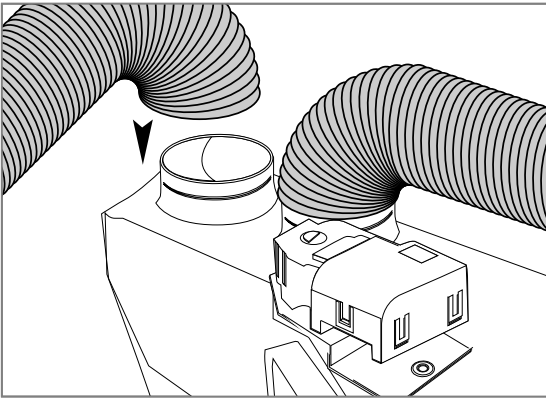
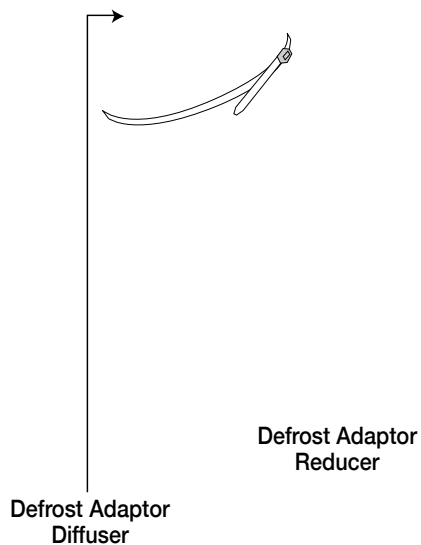

FIGURE 22
FIGURE 23
**Bag Kit E:** The following steps are for left and right Defrost Diffusers: Locate and route the duct hoses from the defrost/heat duct assembly (see figure 22) upward toward the defrost adaptor diffusers. Next locate and install defrost adaptor diffusers from the top of the dash and secure with v-clips supplied. Attach flex hose to the defrost diffuser adaptors using zip-ties. Push adaptors onto diffusers from below. The other end of the duct hose is installed over the defrost/heat duct assembly outlets on the main unit (see figure 23 and the diagram below).